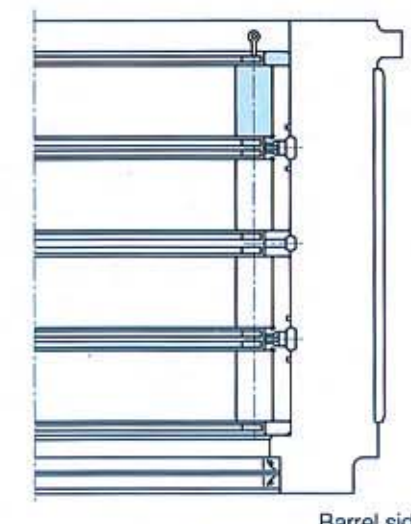

Fig. 3.26
- (12) Apply the lubricant to the roller's rolling surface, and both ends of the row D rollers.
- (13) Apply the lubricant over all the surfaces of the rib ring.
- (14) Place the rib ring with matching symbol side facing upward on the row D cage. With the marked side facing upward, install special eyebolts into the four tapped holes in the cage, lift the cage assembly, and insert it slowly into the outer ring in the chock. (**Fig. 3.26**)
- (15) Holder lids are available in various shapes due to the diversity of recent rolling mills. Install (remove) the holder lid in compliance with the maintenance manual of the mill builder.